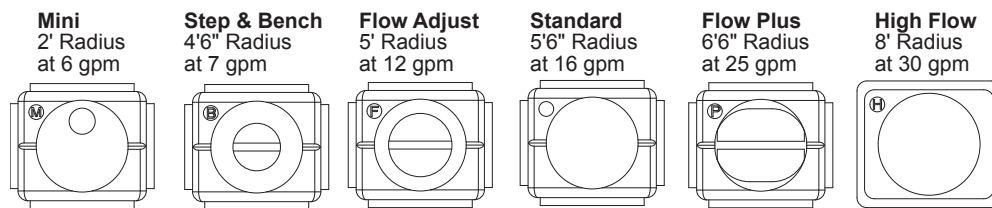
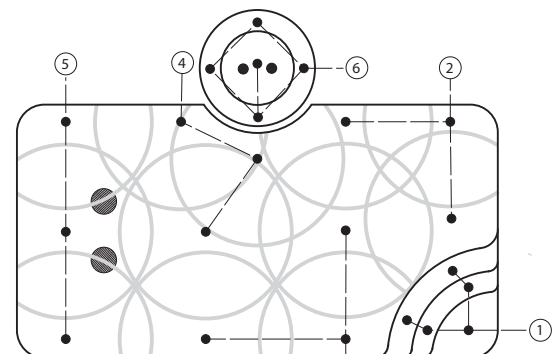

Figure 1. Nozzle options
Figure 2. Plumbing Design Plan
**Follow the certified design plan to position and stake the cleaning head locations.** Each head has a designated nozzle that has a precise cleaning radius (see Figure 1). Perimeter heads have a 1 ft. (0.3 m) overlap. Mark the cleaning radius around each stake to verify cleaning coverage (Figure 2).
Flare steps and benches to ensure debris does not get cornered (see Figure 2). Heads should be positioned 2 in. (5.1 cm) from the outer edge on steps and benches.
The Jandy In-Floor certified pool plan indicates which cleaning heads will be plumbed together to form a bank. Run all feed lines to the top of the bond beam to facilitate easy valve hookup. Number the lines according to the design plan (see Figure 2).